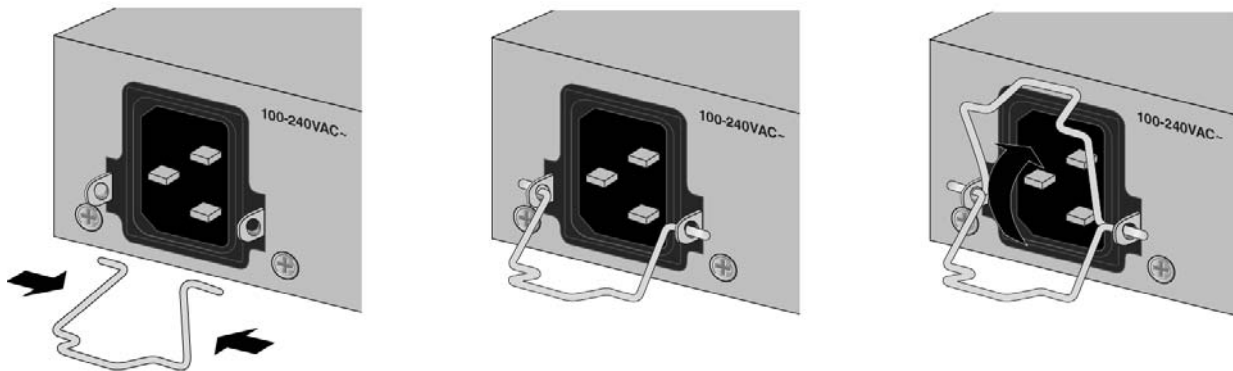

Figure 48. Installing the Power Cord Retaining Clip
1. Install the power cord retaining clip on the AC power connector on the rear panel of the switch. Refer to Figure 48.